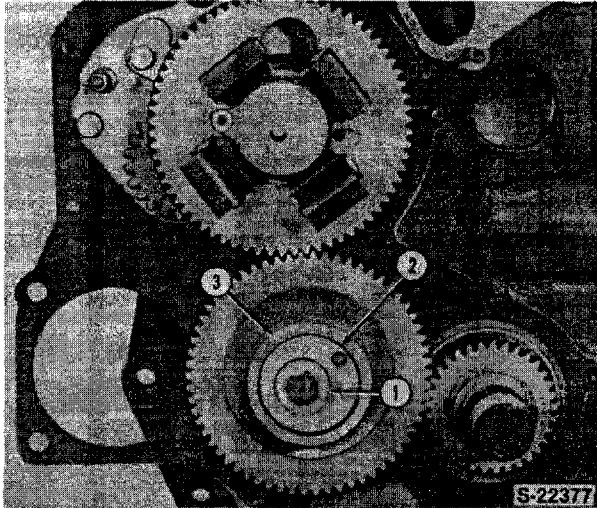

Figure 38
The oil pump is located inside of the pump drive gear at the front of the engine block, Figure 38.
1. Remove the "E" snap ring and slide the drive gear along with the rotors, cover, spring, shim and collar off the pump shaft as an assembly, Figure 38.